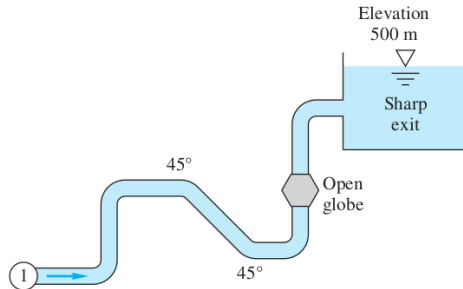

Fig. 6.10
- 6.10** The system in Fig. 6.10 consists of 1200 m of 5 cm cast iron pipe, two 45° and four 90° flanged long-radius elbows, a fully open flanged globe valve, and a sharp exit into a reservoir. If the elevation at point 1 is 400 m, what gage pressure is required at point 1 to deliver 0.005 m³/s of water at 20°C into the reservoir?